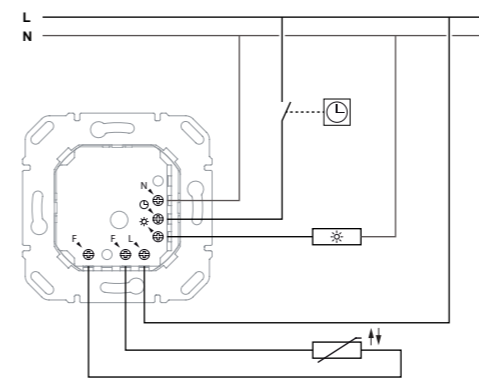

Figure 4: Thermostat connection diagram, NO contact, for underfloor heating
- Connect the controller according to connection diagram (Figure 4).
- Plug the rocker (6) into the top acceptance slot of the on/off switch.
- Place the centre plate (3) over the design frame (2) in the correct position and fix with the fastening screw (4).
- Slip the setting knob (5) on.